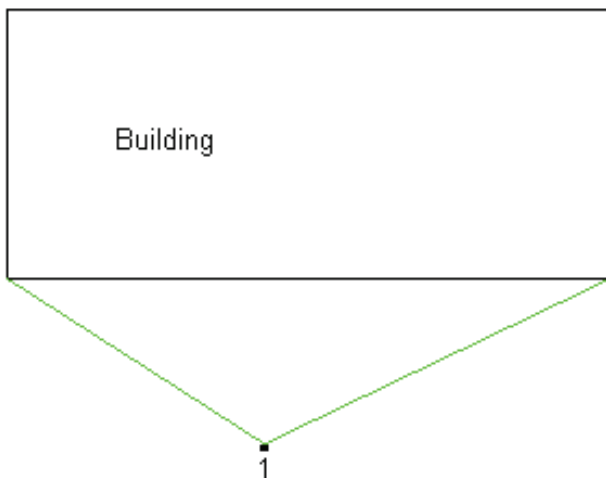

Fig. 4-8
- C.** Triangulation – measurements are taken from two fixed points at the scene to the object you desire to locate. For example, item 1 in Figure 4-8 is located by taking measurements (length of the green lines) from two corners of the building. **Note: Make sure to measure the distance between the two fixed points.**